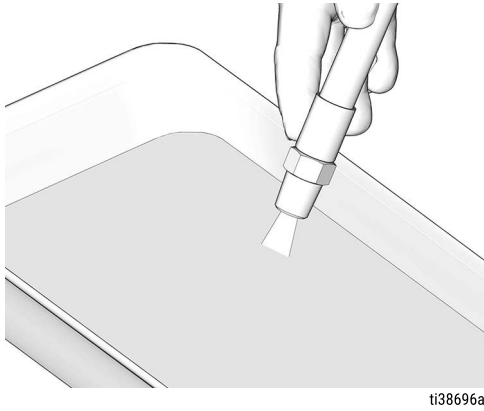

FIG. 3
3. Flush the fluid being dispensed through the equipment until the fluid runs clear (FIG. 3).